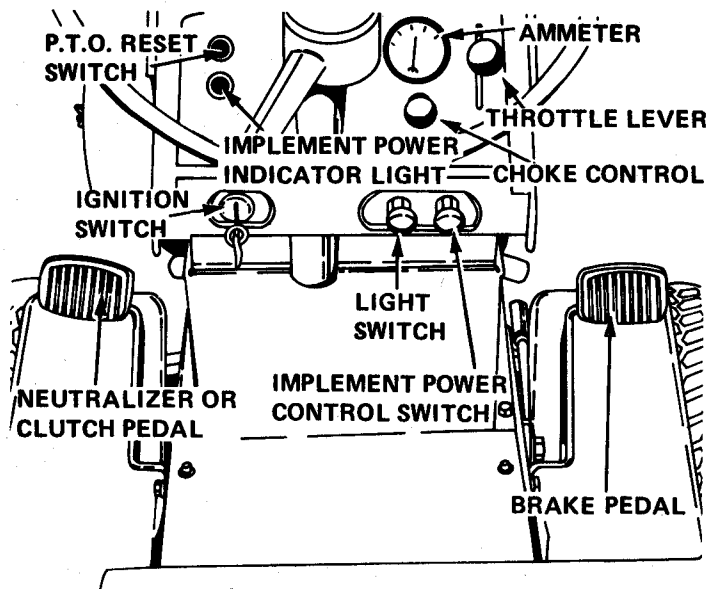

Figure 9
Throttle Lever (Figure 9). Raise the lever to increase engine speed. Lower the lever to decrease engine speed. ALWAYS OPERATE THE TILLER AT FULL SPEED.
Ignition Switch (Figure 9). Turn the key fully clockwise to start the engine and release when the engine starts. Turn the key counter-clockwise to stop the engine.
Choke Control (Figure 9). Pull the choke control out when engine is cold or when starting during cold weather. When engine starts, gradually push choke
Neutralizer or Clutch Pedal (Figure 9)
3. Raise throttle lever to approximately $\frac{1}{3}$ open position as shown in Figure 9.
4. Pull choke control, Figure 9, all the way out if the engine is cold. If engine is warm, little or no choke will be required.
5. Turn ignition key shown in Figure 9 clockwise all the way. Release key as soon as the engine starts and push choke control in. In extremely cold weather it may be necessary to push choke in gradually until engine warms up. If engine fails to start on the first attempt, turn key to off, wait a few minutes and try again. Do not operate the starting motor continuously for more than 30 seconds at a time. **ALWAYS ALLOW ENGINE TO WARM UP BEFORE APPLYING LOAD.**